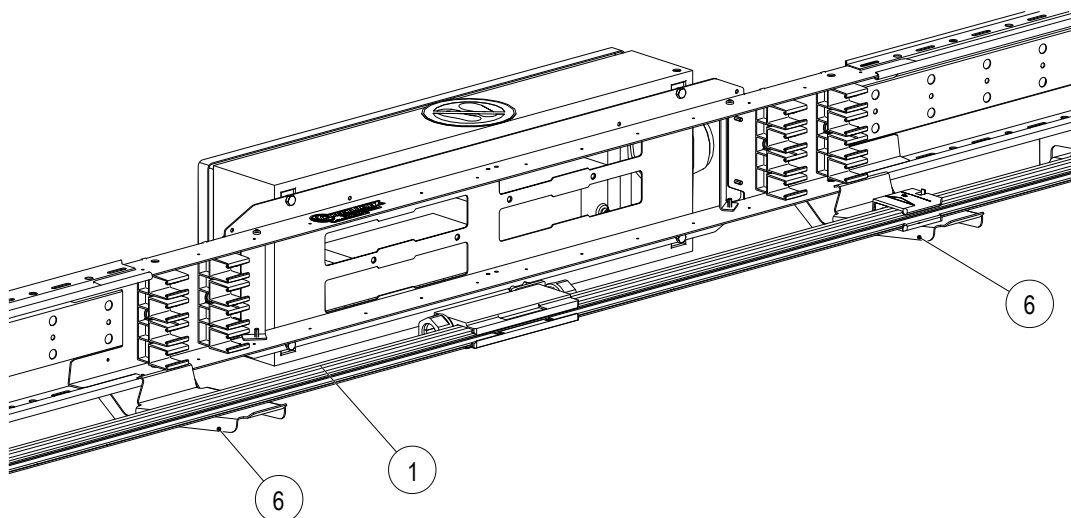

Fig. 33: Lay conductor rail with line feed and anchor point (1) on auxiliary consoles (6)
2. Place the conductor rail with the installed line feed and anchor point (1) on the auxiliary consoles (6) to be able to connect the conductor rail (1) to the additional conductor rails on the right and left (see Fig. 33). For better handling during connection, auxiliary consoles should also be hooked onto the ProShell Support Profile System for the additional conductor rails.